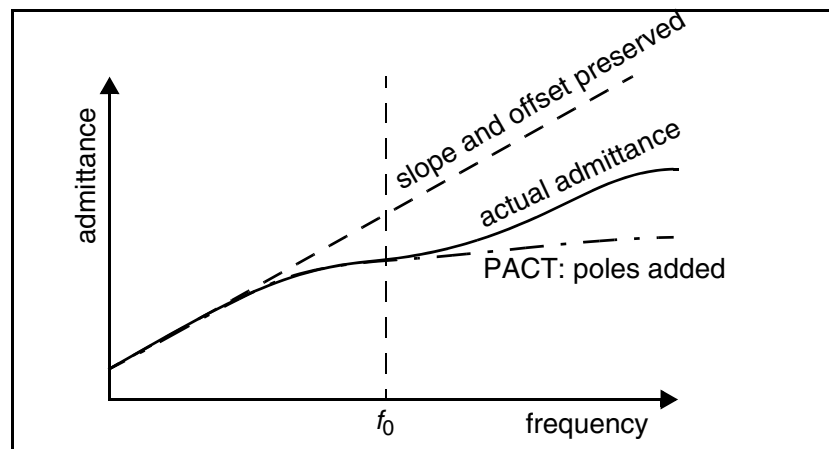

Figure 180 PACT Algorithm
- The transform preserves the first two moments of admittance at DC (slope and offset), so that DC behavior is correct (see Figure 180).